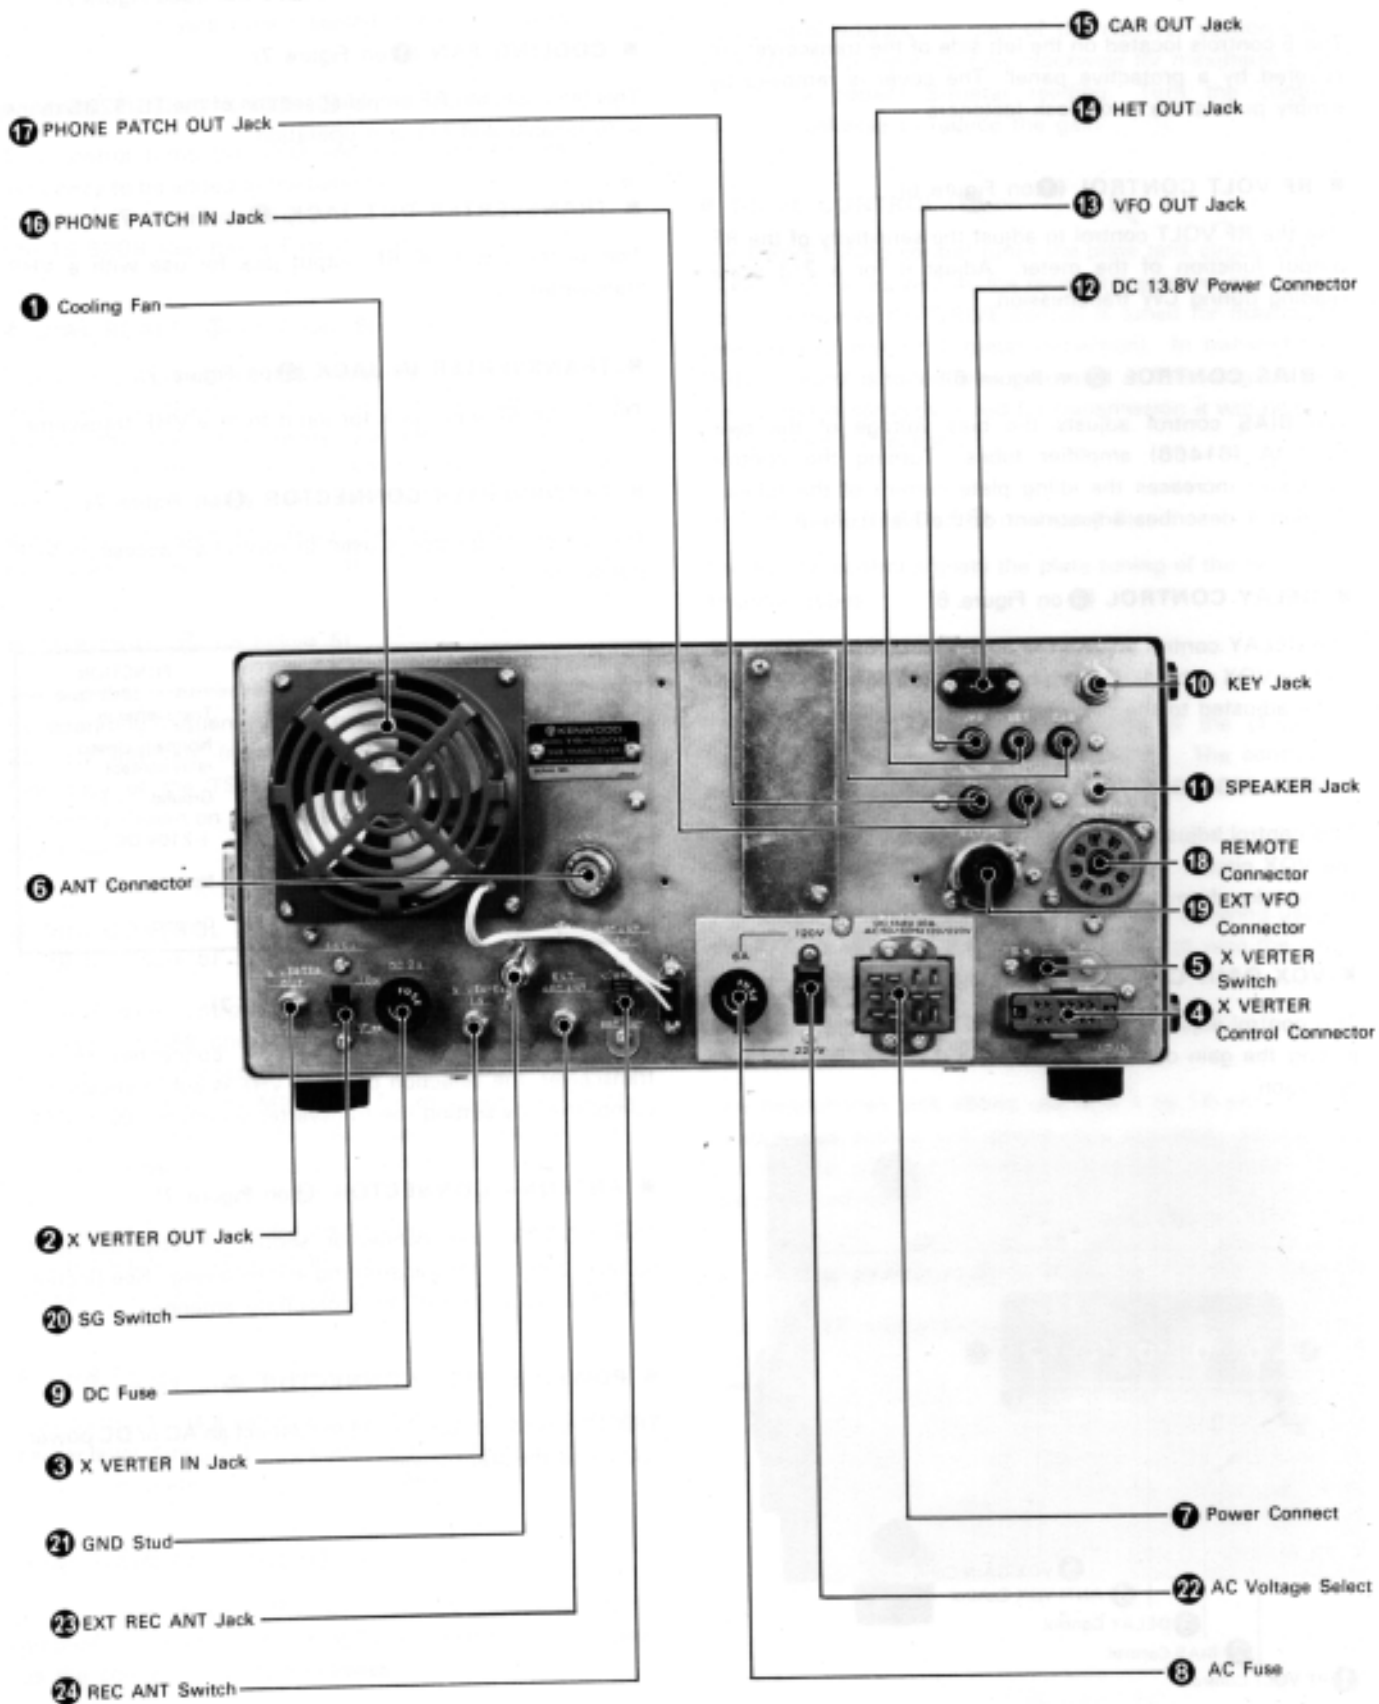

Fig. 7 Rear Panel Controls
### 3.3 REAR PANEL CONTROLS (See Figure 7)
#### ■ COOLING FAN (1 on Figure 7)
#### ■ TRANSVERTER OUT JACK (2 on Figure 7)
#### ■ TRANSVERTER IN JACK (3 on Figure 7)
#### ■ TRANSVERTER CONNECTOR (4 on Figure 7)
#### ■ XVERTER SWITCH (5 on Figure 7)
#### ■ ANTENNA CONNECTOR (6 on Figure 7)
#### ■ POWER SUPPLY CONNECTOR (7 on Figure 7)
■ **AC FUSE** (③ on Figure 7)
■ **DC FUSE** (④ on Figure 7)
■ **KEY JACK** (⑩ on Figure 7)
■ **SPEAKER JACK** (⑪ on Figure 7)
■ **13.8V DC CONNECTOR** (⑫ on Figure 7)
■ **VFO OUT JACK** (⑬ on Figure 7)
**HET OUT JACK** (⑭ on Figure 7)
**CAR OUT JACK** (⑮ on Figure 7)
■ **PHONE PATCH IN JACK** (⑯ on Figure 7)
■ **PHONE PATCH OUT JACK** (⑰ on Figure 7)
■ **REMOTE CONNECTOR** (⑱ on Figure 7)
■ **EXTERNAL VFO CONNECTOR (19 on Figure 7)**
■ **SG SWITCH (20 on Figure 7)**
■ **GND (Ground) LUG (21 on Figure 7)**
■ **AC VOLTAGE SELECT SWITCH (22 on Figure 7)**
■ **EXTERNAL RECEIVER ANTENNA JACK (23 on Figure 7)**
■ **RECEIVER ANTENNA SWITCH (24 on Figure 7)**